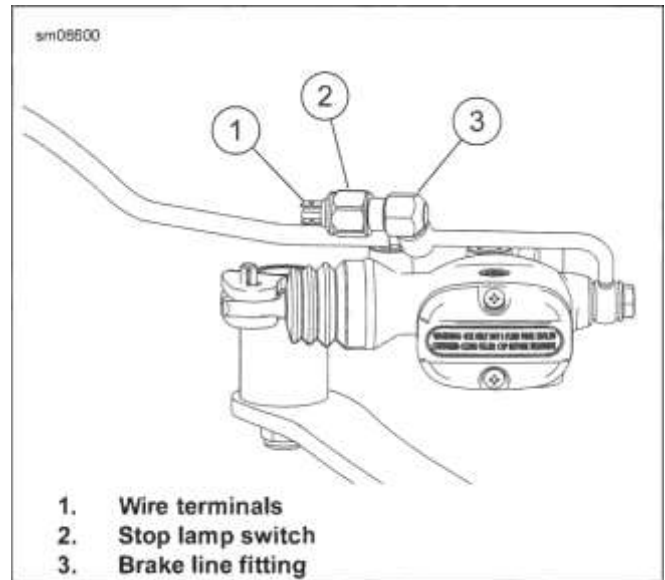

Figure 8-74. Rear Stop Lamp Switch
1. See Figure 8-74. Disconnect stop lamp switch connectors from terminals (1).
2. See Figure 8-74. Install rear stop lamp switch (2) into rear brake line fitting (3).